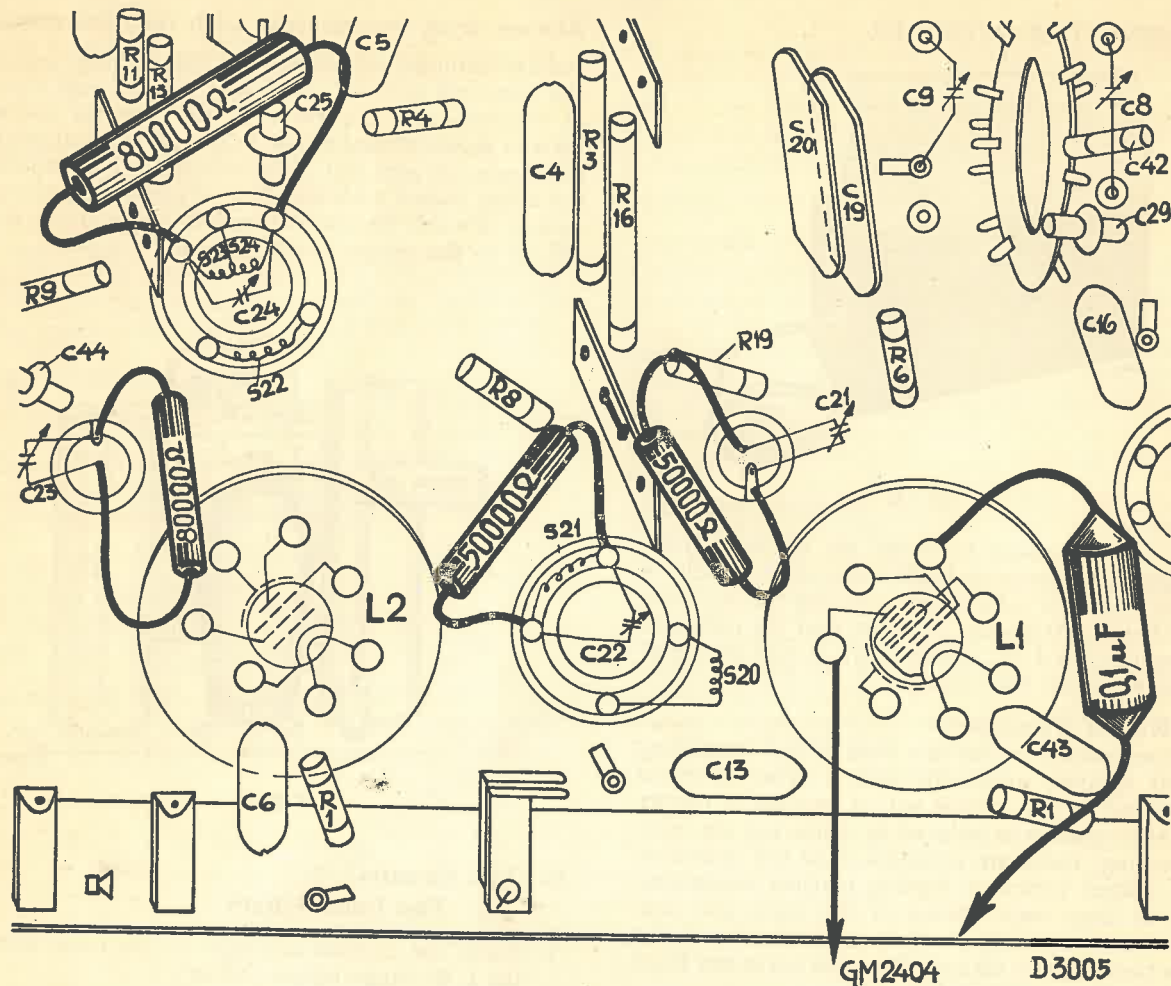

Fig. 3.
5. Connect 50,000 ohms resistance across C22 and 80,000 ohms across C23 (see Fig. 3).
8. Connect 50,000 ohms resistance across C21 and 80,000 ohms across C24 (see Fig. 3).
3. Connect aperiodic amplifier GM2404 to anode of L1 (see Fig. 3).
5. Earth the first grid of the mixing valve through a condenser of $0.1 \mu\text{F}$ (see Fig. 3).